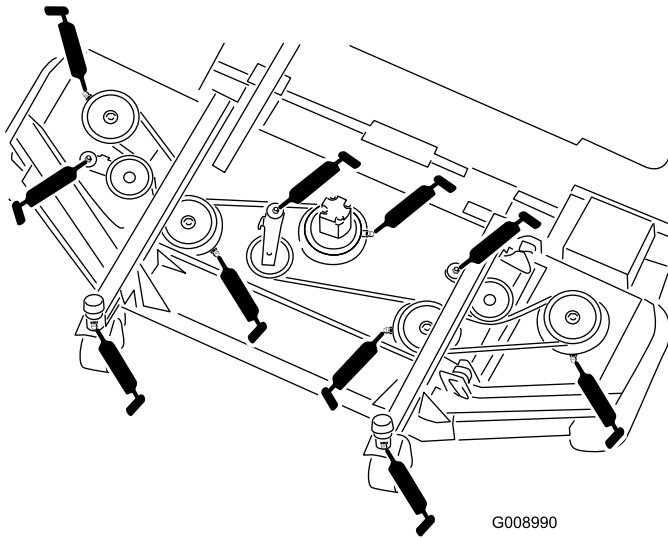

Figure 52
- 2 caster-fork-shaft bushings (Figure 52)
- 5 spindle-shaft bearings (located on the spindle housing) as shown in Figure 52
- 3 idler-arm-pivot bushings (located on the idler-pivot shaft) as shown in Figure 52